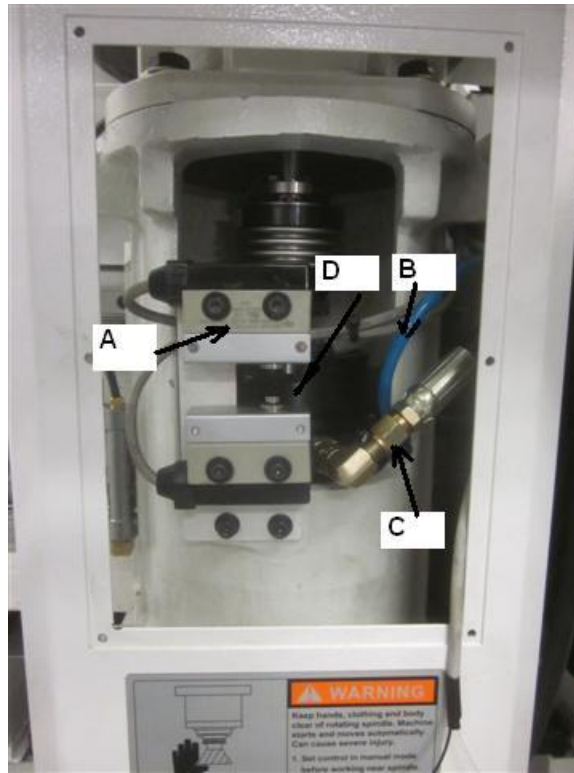

Figure 6.10
5. Remove the clamp/unclamp bracket assembly (A), air line (B), oil line (C) and the actuator plate (D). Reference figure 6.10